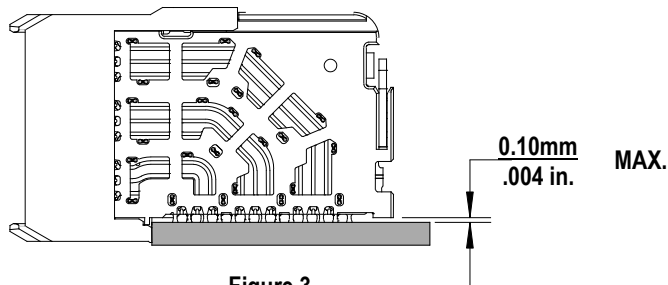

Figure 3
- Using the application tool and an appropriate press, seat the Daughtercard module until there is less than 0.10mm (.004 in) clearance between the bottom of the plastic housing and the surface of the PCB. See Figure 3.